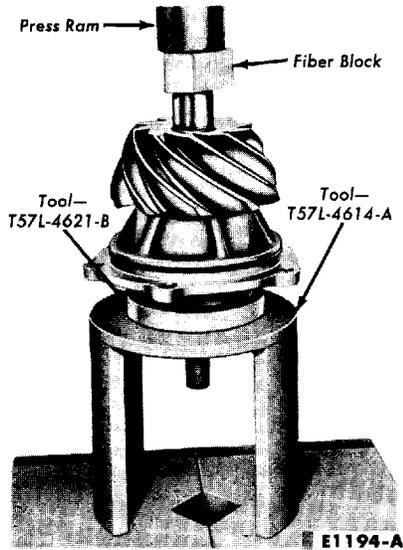

FIG. 27—Pinion Front Bearing Installation
2. Place the bearing retainer on the pinion shaft, and install the front bearing cone and roller. Press the front bearing cone and roller into position as shown in Fig. 27. Be careful not to crush the bearing spacer.